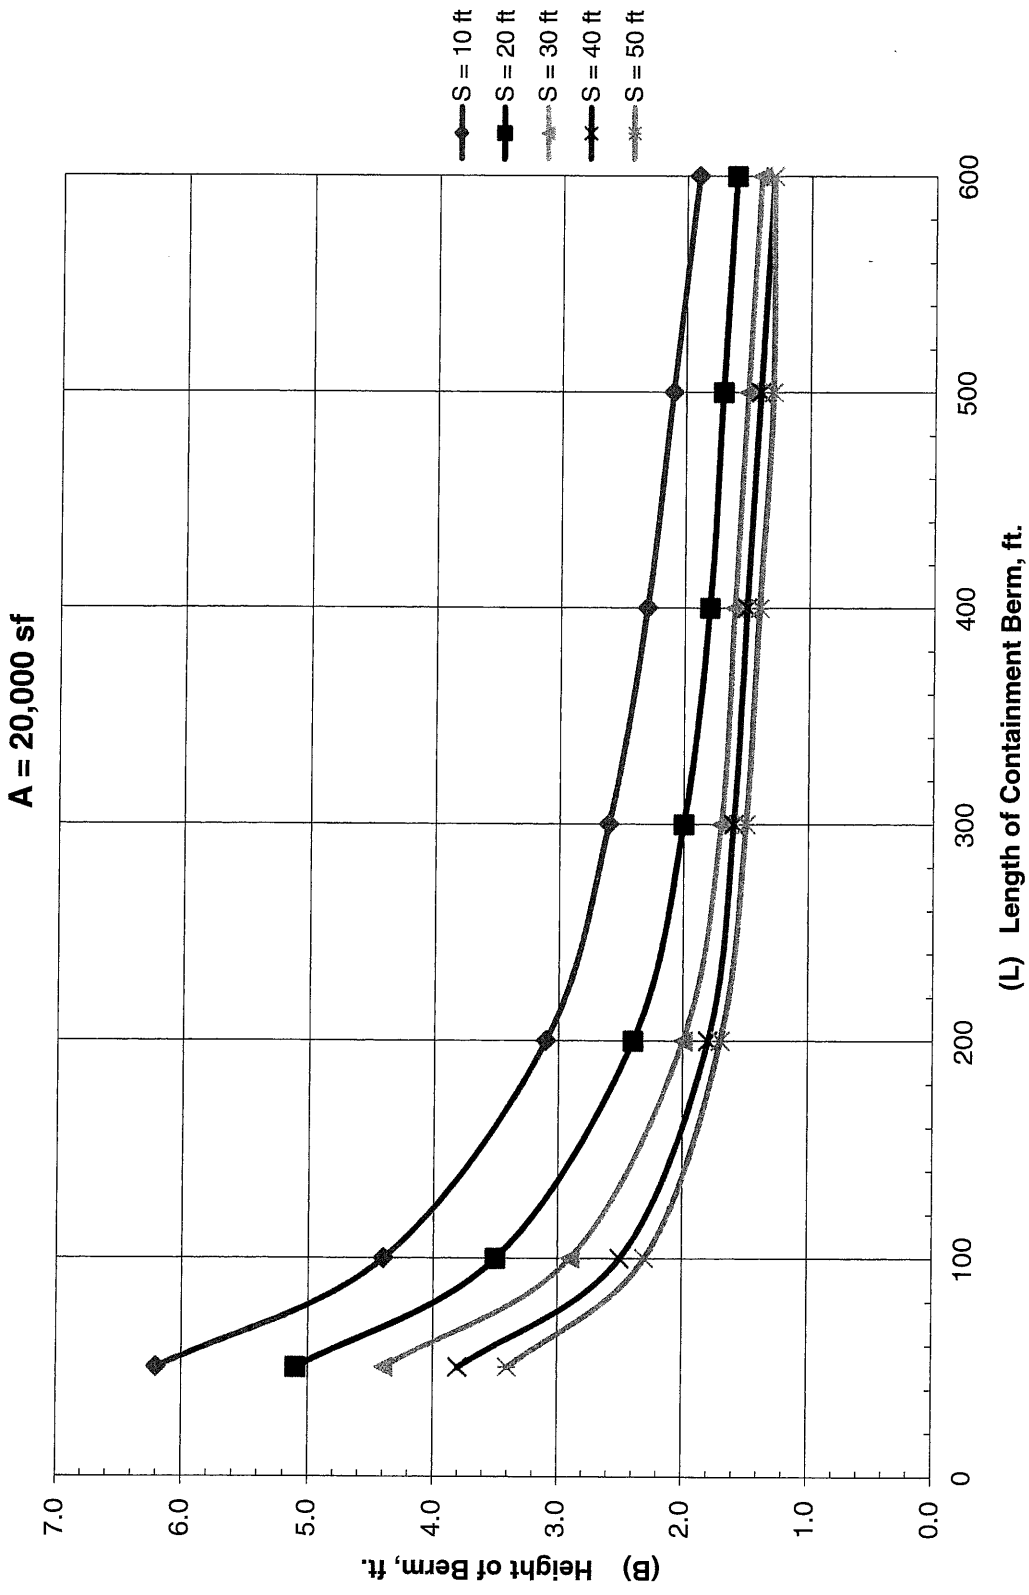

Figure 3. Berm Height vs. Berm Length for Various Setbacks
- 1) Determine the active face area (A);
- 2) Select a figure from Figures 1-8 that has an active area closest to, but no less than the actual A. For example, if $A=25,000$, choose Figure 3 ($A=30,000$);
- 3) Determine the minimum setback distance (S) for the daily operation, and select the corresponding curve. If the setback distance falls between the numbers shown on the figure, the closest but smaller value of S will be used. For example, if $S=25$ ft, choose the curve representing 20 ft; and